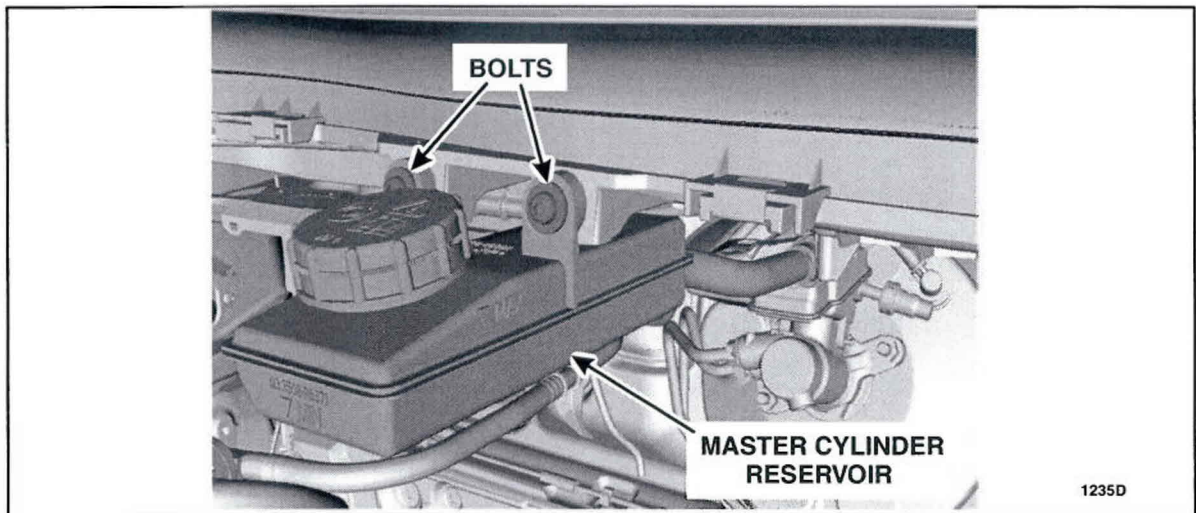

FIGURE 4
10. Remove the two bolts and position the master cylinder reservoir aside. See Figure 4.